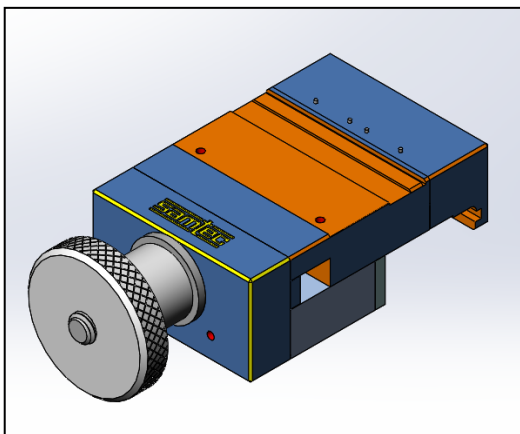
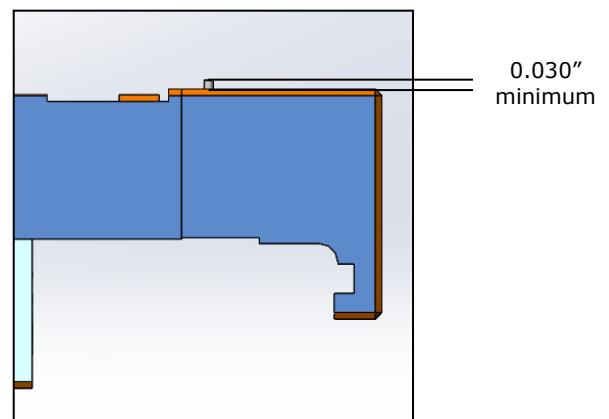

FIGURE 1
FIGURE 2
1. Prior to removing the stiffener, verify the stiffener removal tool (**Figure 1**) is in proper working order and condition. Ensure all stiffener engagement pins are present and protruding at least 0.030" from each opposing face of the pin block, as seen in **Figure 2**. If any pins are missing, bent, or broken, remove and replace them.